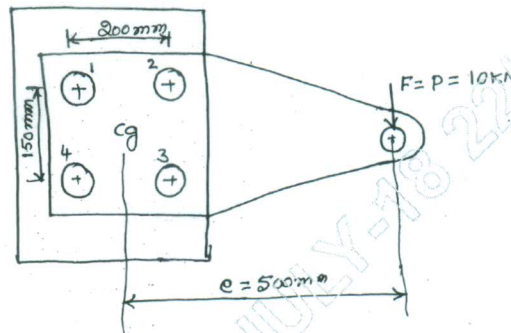

Fig.Q4(b)
- b. The structural connection shown in Fig.Q4(b) is subjected to an eccentric load P of 10 kN with an eccentricity of 500 mm. The centre distance between bolts at 1 and 3 is 150 mm and the centre distance between bolts at 1 and 2 is 200 mm. All bolts are identical. The bolts are made of plain carbon steel having yield strength in tension of 400 MPa and the factor of safety is 2.5 . Determine size of bolts.